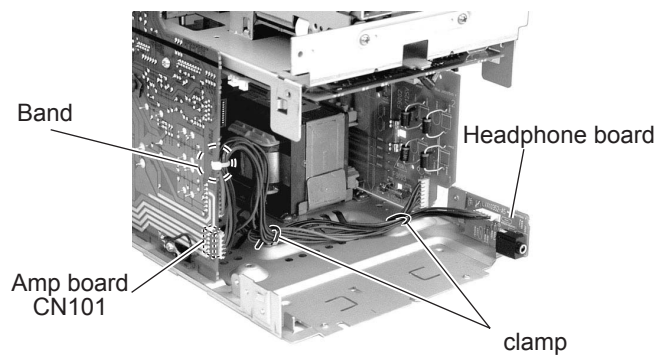

Fig.23
2.1.9 Removing the headphone board (See Fig.23 and 24.)